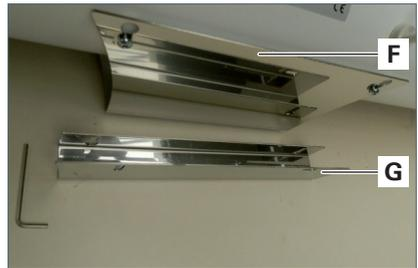

Fig. 5: Loosen the screws.
NOTE: On delivery, both the stand holder **F** and the wall mount **G** are assembled to the device, see Fig. 4 and see Fig. 5.
1. Loosen both screws and remove the stand holder **F** from the fixture, see Fig. 5.